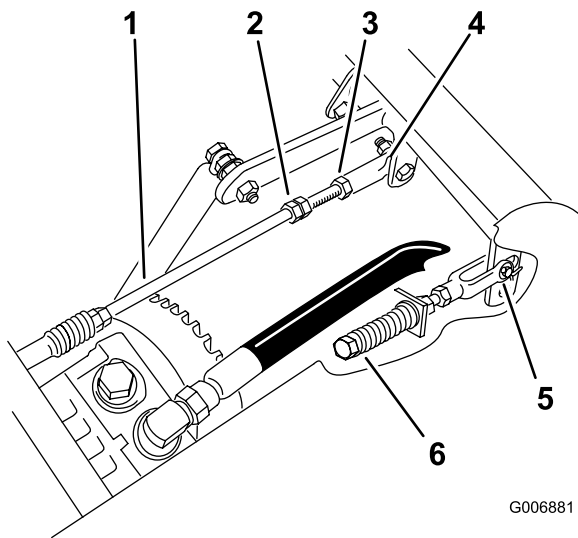

Figure 62
3. Adjust the pump rod length by rotating the double nuts on rod, in the appropriate direction, until the wheel is still or slightly creeping in reverse (Figure 62).
6. Tighten the locknut at the ball joint (Figure 62).